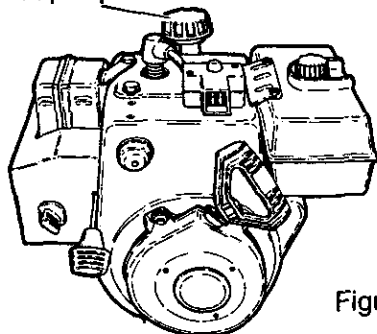

Figure 24
Check the crankcase oil level before starting the engine and after each five (5) hours of continuous use. See Figure 24. Add S.A.E. 5W30 motor oil as needed. Tighten fill cap/dipstick securely each time you check the oil level.